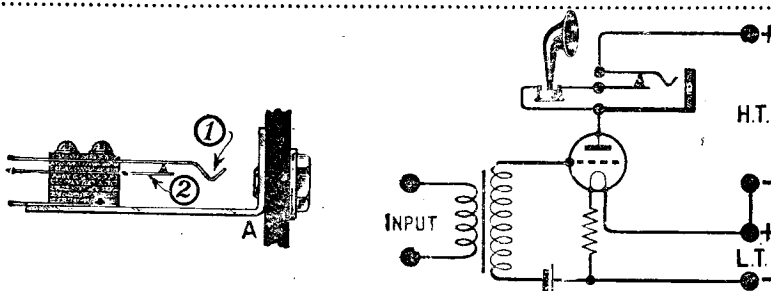

Fig. 3.—The Single Circuit Closed jack possesses an additional contact (2), and may be used as seen in the theoretical diagram.
If one contact is added to the jack, we have the "Single Circuit Closed" type, shown in Fig. 3, in which a suitable circuit for employing the extra contact is also given. In the normal state, the blade (2) is in contact with blade (1). When the plug is inserted, it makes contact with (A) and (1) in the usual way, and at the same time lifts (1) away from (2). In the circuit shown the loud-speaker is permanently wired in circuit. The insertion of a plug connected to the telephones puts them in circuit, disconnecting the loud-speaker. It will be noted that one side of the loud-speaker is still connected to the "live" circuit.